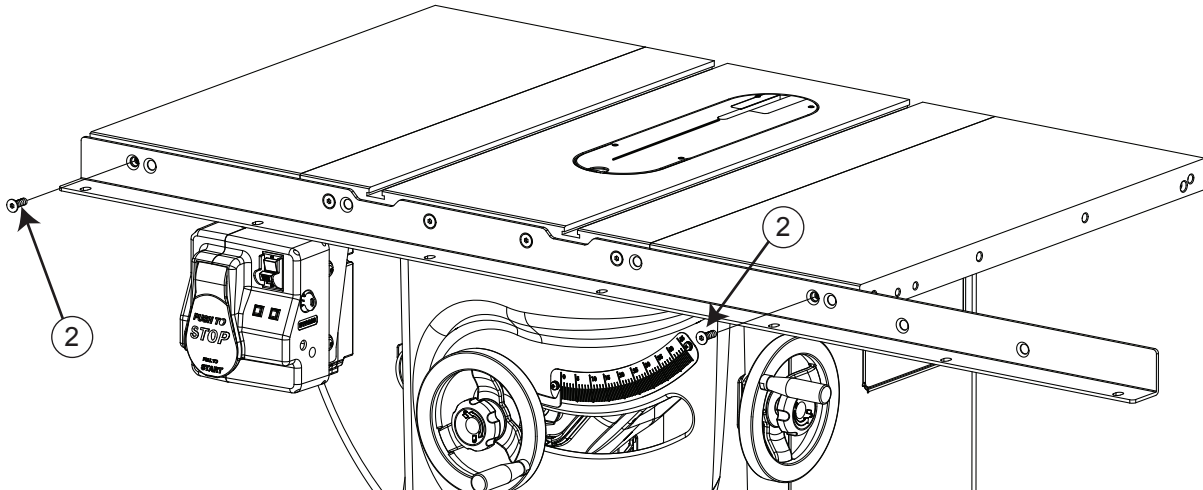

Fig. 3
3. Take two M8x1.25x25 flat head socket bolts and insert one through the open hole at the end of each extension wing, as shown in Fig. 3.